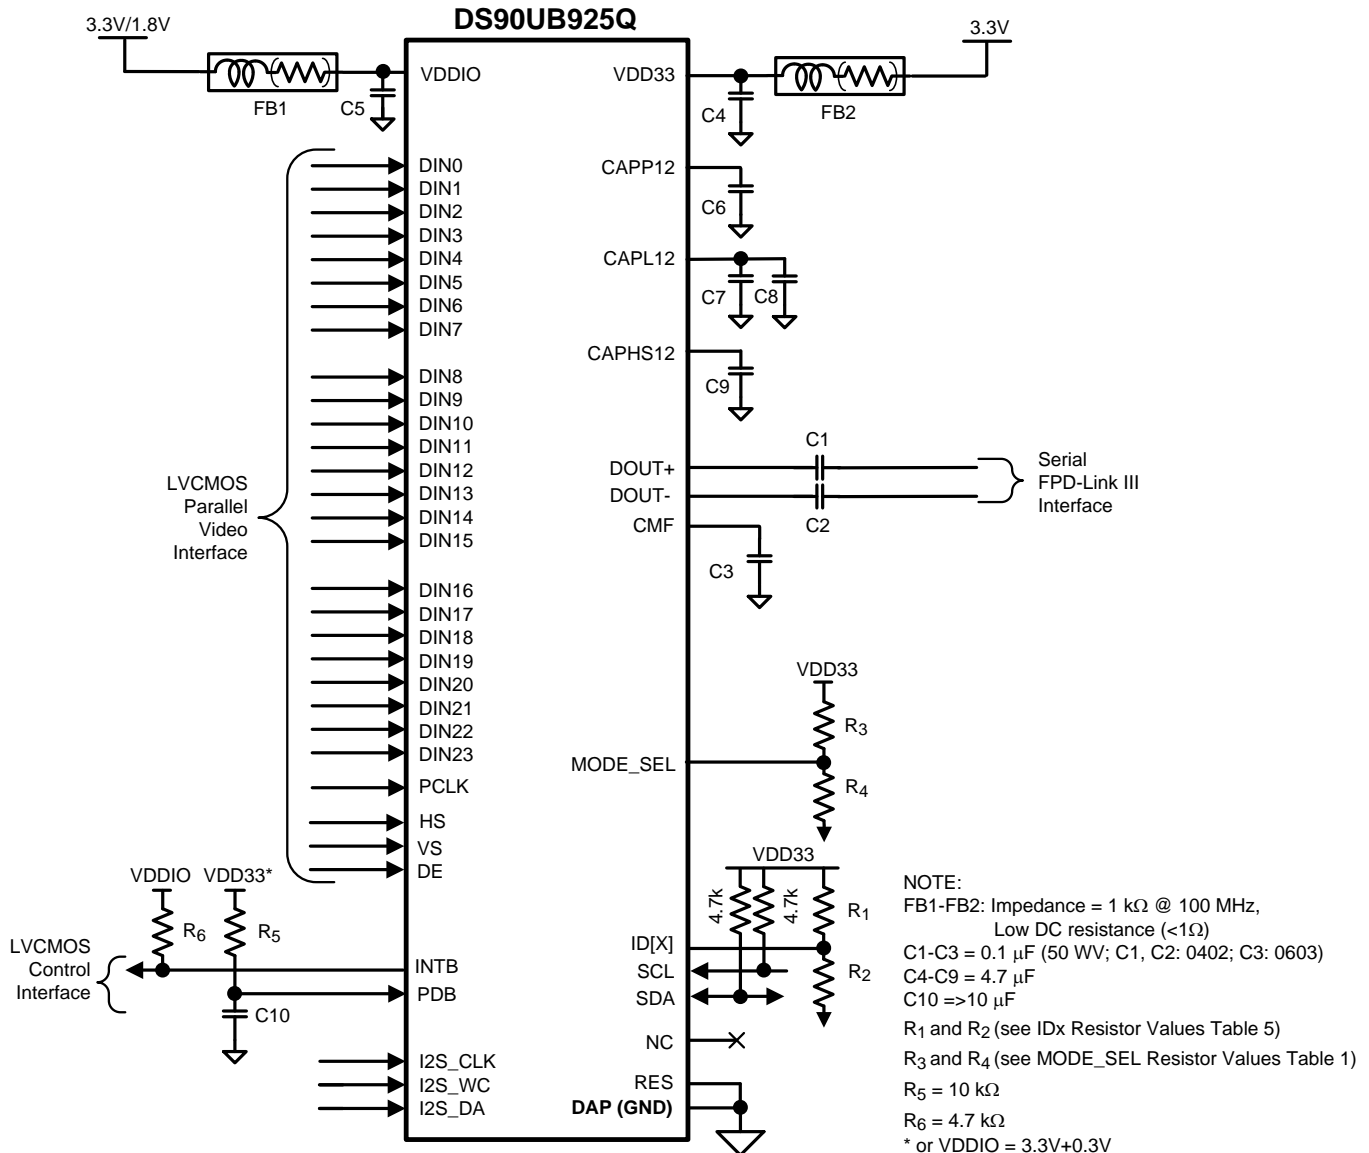

Figure 25. Typical Connection Diagram
Figure 25 shows a typical application of the DS90UB925Q serializer for an 85 MHz 24-bit Color Display Application. The CML outputs must have an external 0.1 μ F AC coupling capacitor on the high speed serial lines. The serializer has an internal termination. Bypass capacitors are placed near the power supply pins. At a minimum, six (6) 4.7 μ F capacitors and two (2) additional 1 μ F capacitors should be used for local device bypassing. Ferrite beads are placed on the two (2) VDDs (V_{DD33} and V_{DDIO}) for effective noise suppression. The interface to the graphics source is with 3.3V LVCMOS levels, thus the V_{DDIO} pin is connected to the 3.3 V rail. A RC delay is placed on the PDB signal to delay the enabling of the device until power is stable.